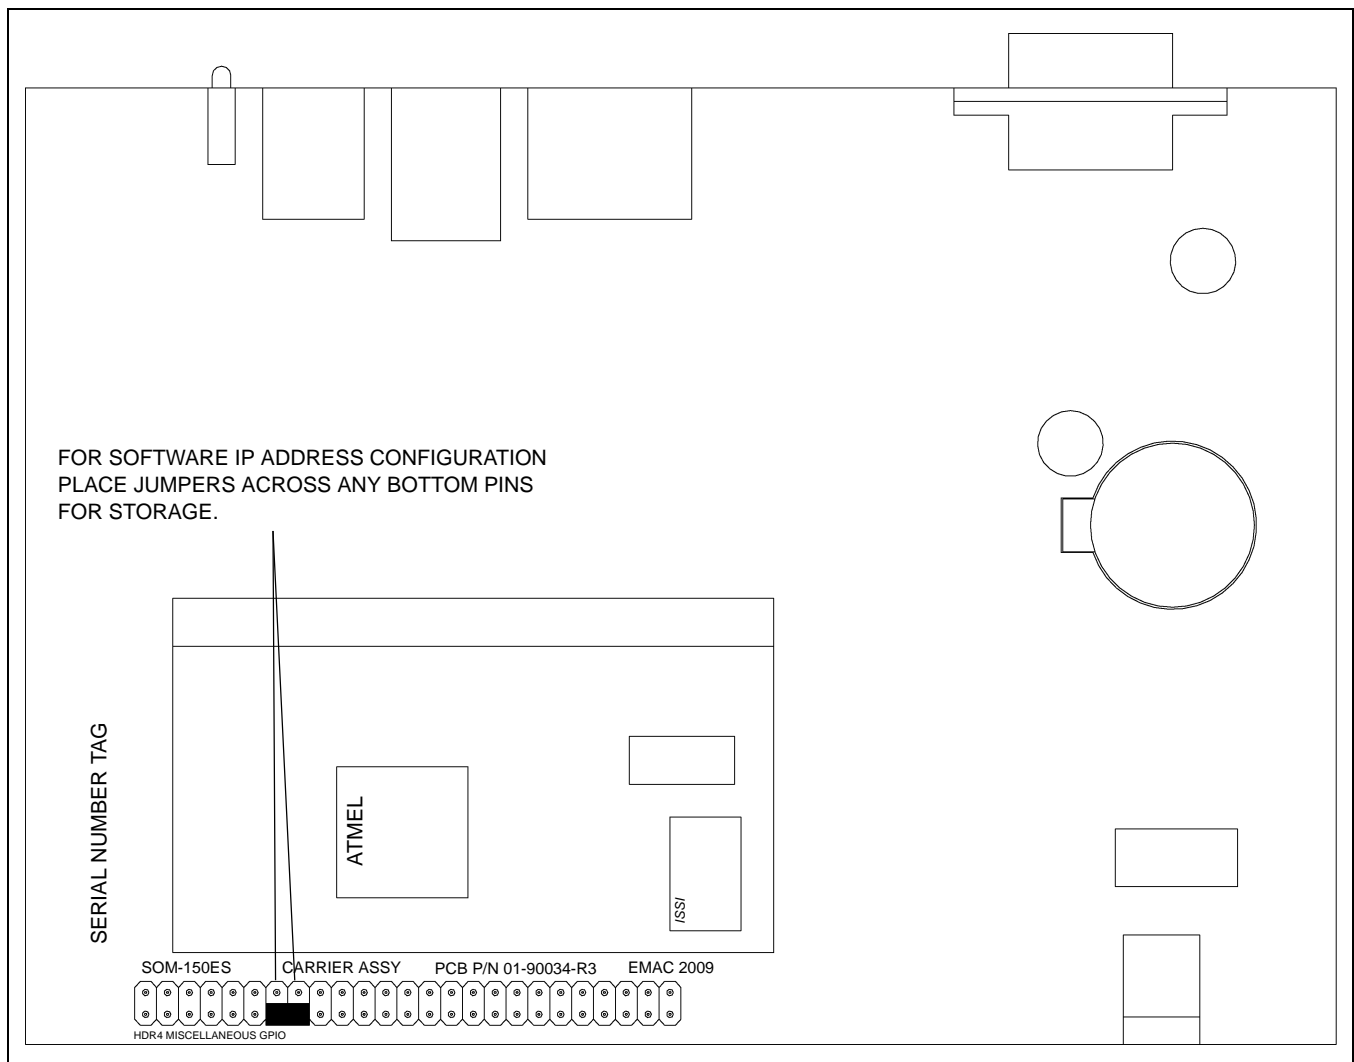

Figure 12C
3. After the software has been configured remove the jumper to a neutral location as shown in Figure 12C.